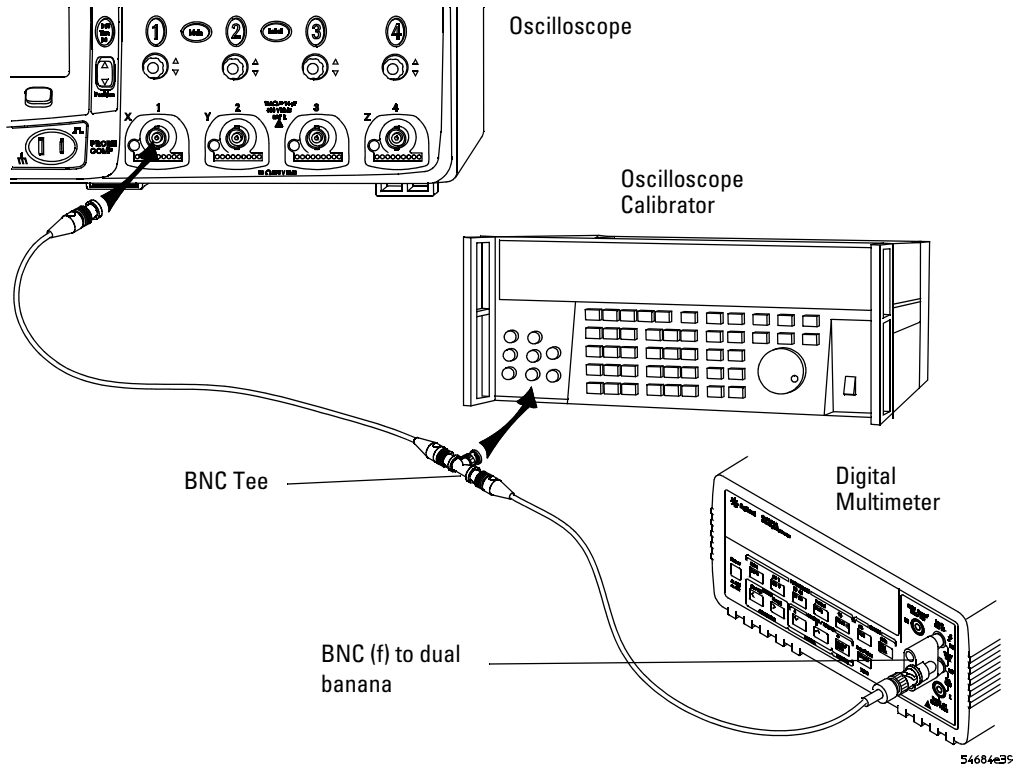

Figure 3 Connect equipment
- 3 Use the BNC tee and cables to connect the oscilloscope calibrator /power supply to both the oscilloscope and the multimeter (Figure 3).